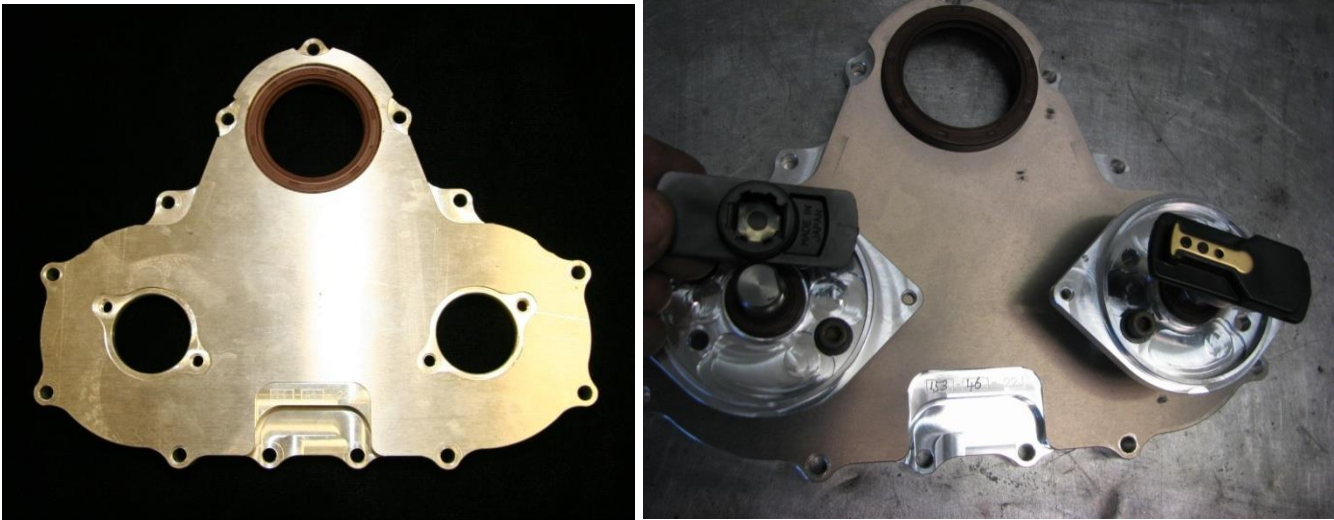

Figure 155 – Installation of Seals & Assembly
- Fresh seals must be fitted to the case and to the distributor mounts as shown in Figure 155. Note that later engines use a larger crankshaft timing gear and a thinner oil seal to suit. Oil seal size must be matched to fit the gear used.